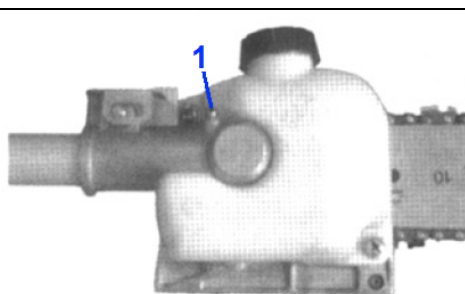

Fig.PP16
4. Lubricate the gear case. To perform this operation, first remove the gear case from the upper outer tube as follows (See Fig.PP16):